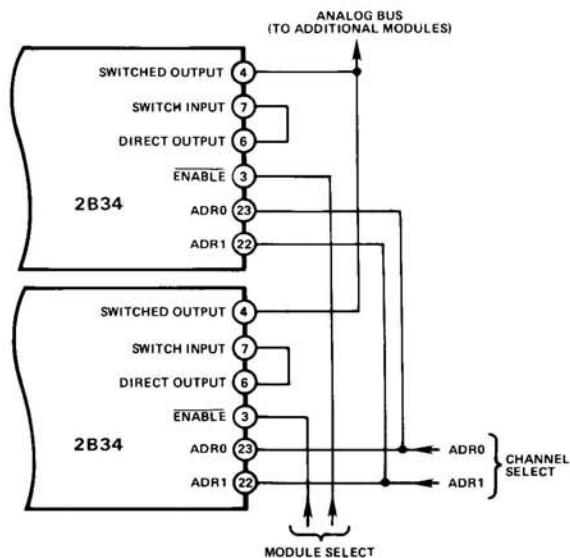

Figure 4. Channel Expansion
**Channel Expansion:** The 2B34 has provisions for directly interconnecting several modules when more than four channels are required. The series switched outputs of the modules are connected together, the channel select inputs are driven in parallel, and the switched output of the desired module is selected using the  $\overline{\text{ENABLE}}$  pin. This technique is shown in Figure 4. Channel address and  $\overline{\text{ENABLE}}$  (active low) inputs are CMOS/TTL compatible with an input current of  $100\mu\text{A}$  each.